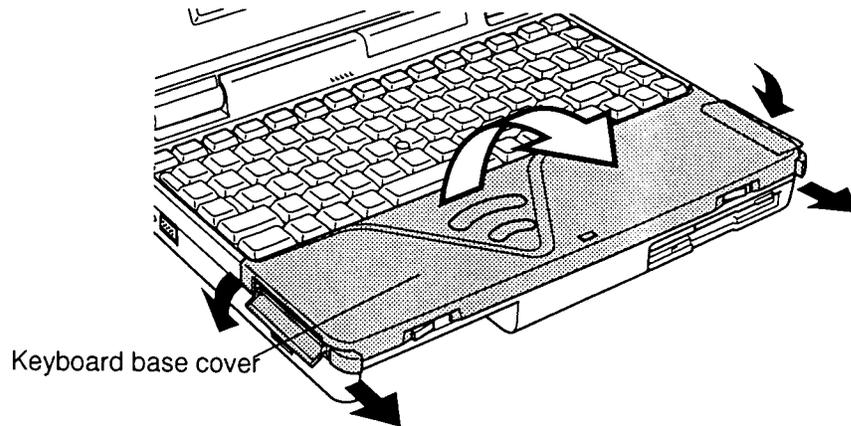

Figure 4-5 Removing the keyboard base cover
6. Put your fingers just inside the PCMCIA slots and lift off the **cover** at the base of the keyboard (figure 4-5).
3. Place the base of the keyboard on the T2400CS/T2400CT (figure 4-5).
5. Put your fingers just inside the PCMCIA slots and lift off the cover at the base of the keyboard (figure 4-5).
4. Place the base of the keyboard on the T2400CS/T2400CT (figure 4-5).